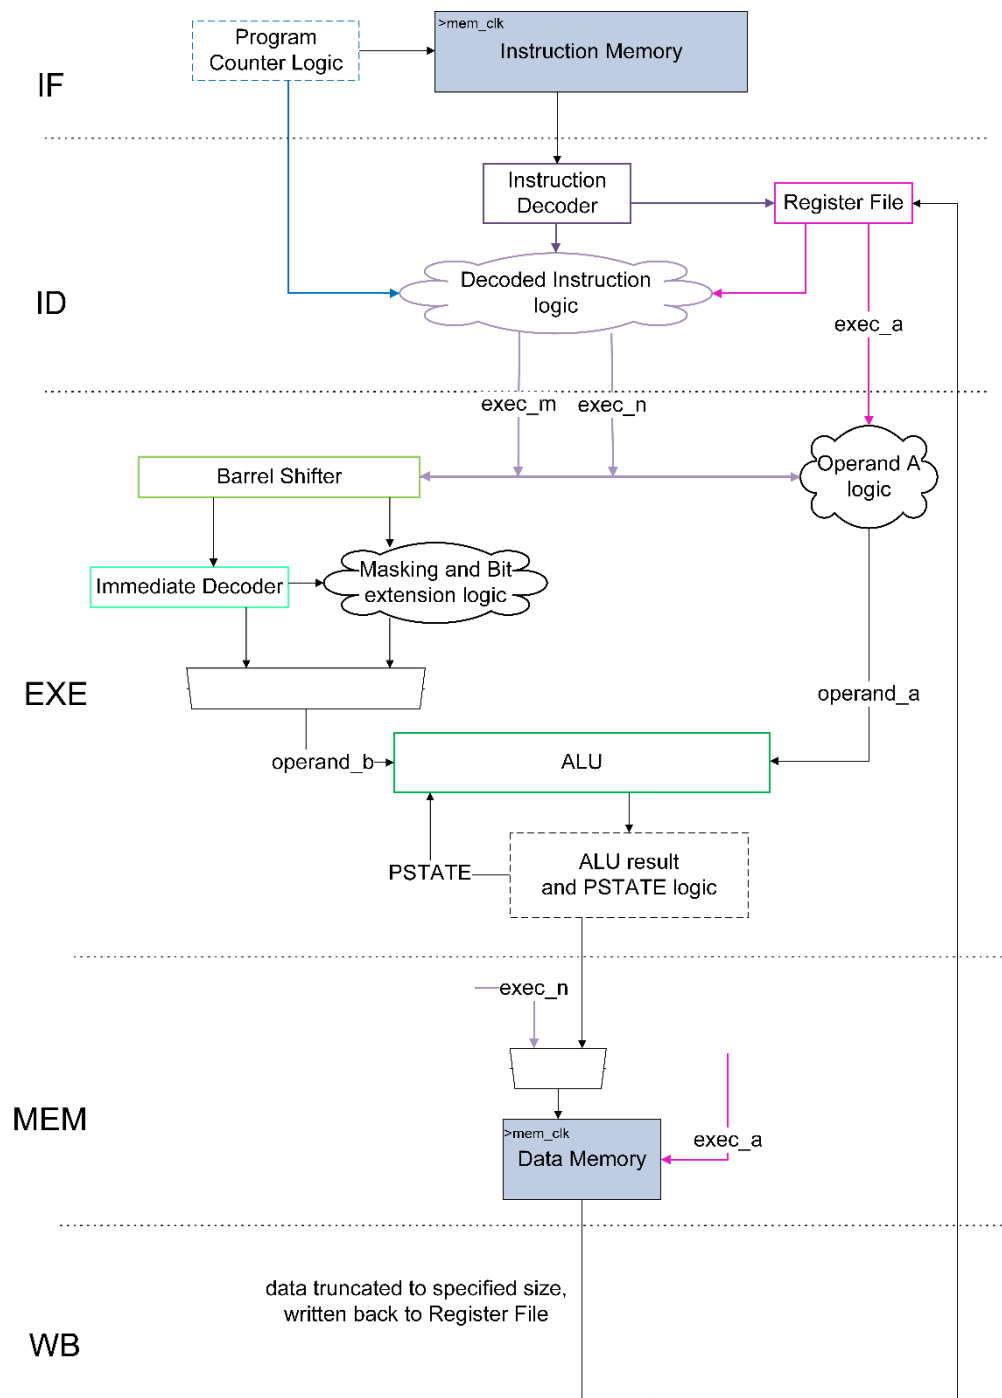

Figure 1: Simplified datapath of single-cycle Arm Education Core
- All other logic around the modules as shown in Figure 1.